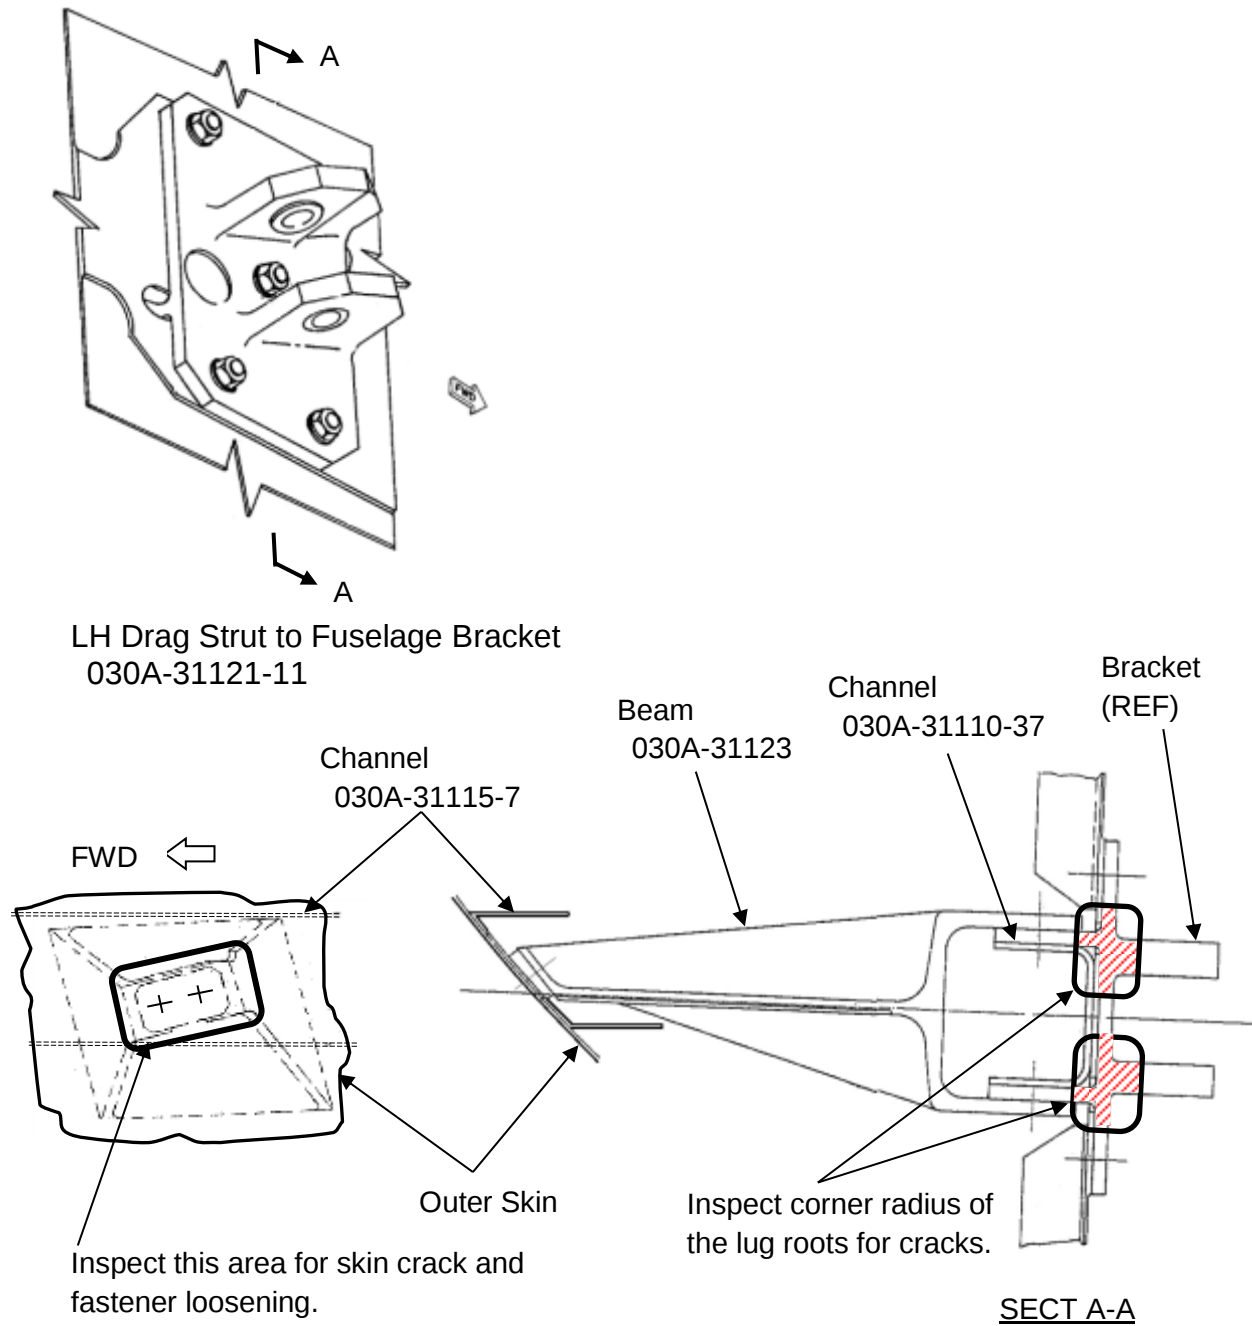

Figure 5: LH Drag Strut to Fuselage Bracket, Outer Skin and Channels
- (3) Visually inspect Outer Skins around fasteners which are installed common to Outer Skin, Channel and Beam for cracks and loosening fasteners in the area shown in Figure 5 and 6.
- (4) Visually inspect Channels (030A-31115-7/-9) between Outer Skin and Beam, and Channels (030A-31110-37 and 030A-31147) attaching to outboard lugs of Bracket for cracks and deformation shown in Figure 5 and 6.